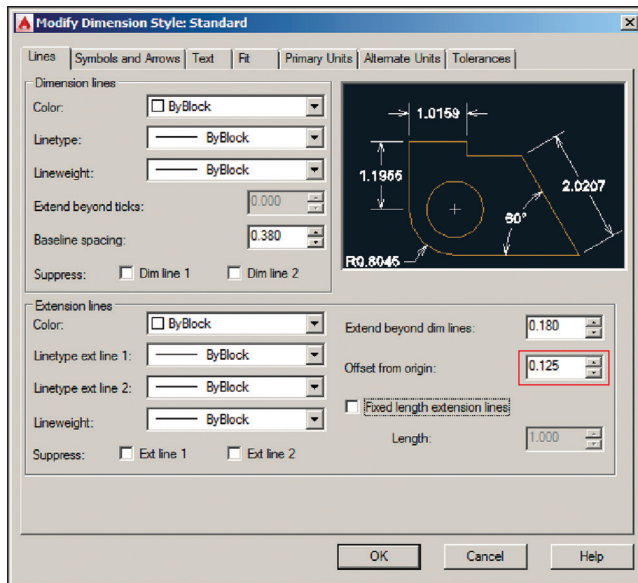

FIGURE 11.6 Increasing the offset from origin distance
5. Select the Lines tab. Double-click the Offset From Origin value to select it, type 0.125, and press Tab (see Figure 11.6). Observe in the preview image how the distance between the object and its extension lines increases. Click OK and Close to save the modifications you've made to the Standard style.